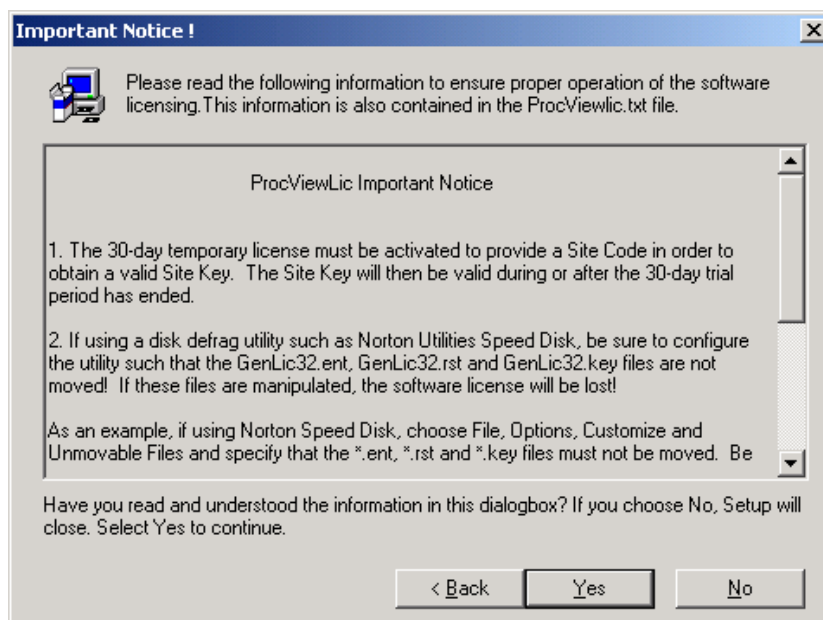

Figure 3.8. License Utility Version Information
13. Read the important notice, as shown in **Figure 3.8**. Click **Yes** to continue.